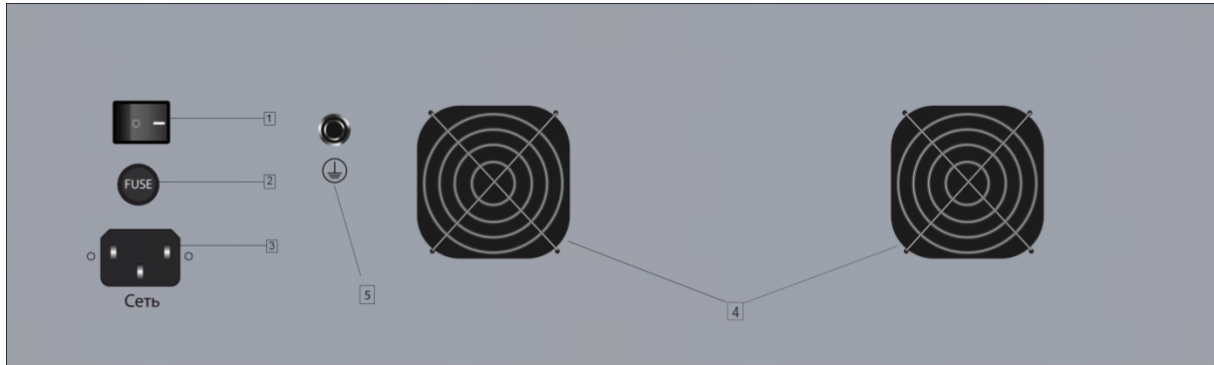

Fig. 2 Rear panel of the calibrator
- ① Connect the calibrator to the mains using the supplied cable.
- ② Turn on the calibrator using the switch **1** on the rear panel (see Figure 2).